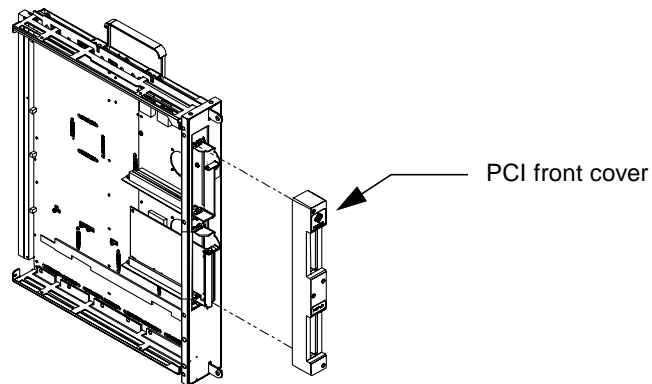

FIGURE 18 PCI Front Cover Installation
8. Install the PCI front cover onto the front of the system board tightening to a torque setting of 0.8 Nm (7.0 inch pounds) (FIGURE 18 on page 16).